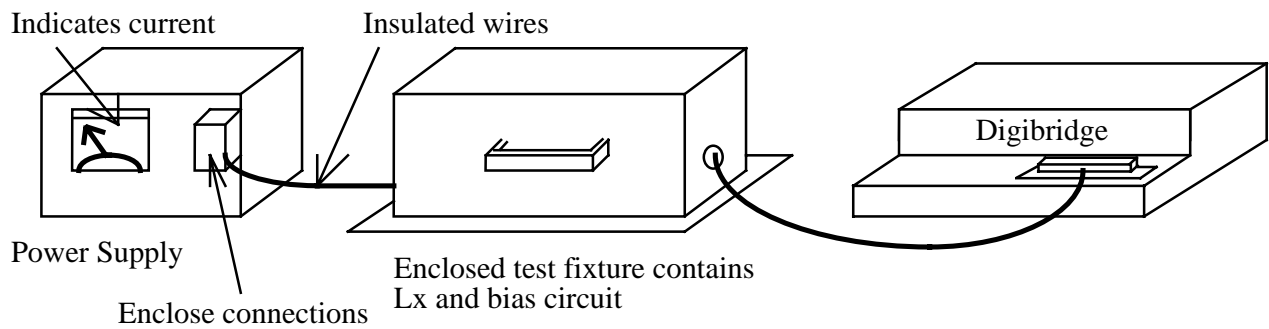

Figure 2: Example Inductor Test Setup
2. Enclose the inductor in an insulated box with an interlock switch so that the current cannot flow when the box is open (See Figure 2).
3. Use redundant switching (See Figure 2).
A measurement system should look something like that sketched in Figure 2.